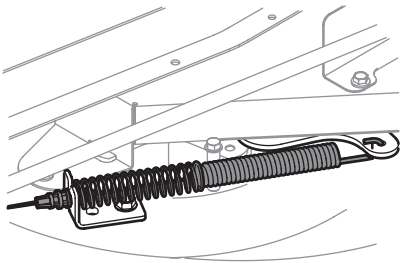

Figure 33
- Carefully remove the PTO cable from the rear of the cutting deck. Remove the spring from the deck idler bracket. (Figure 33).